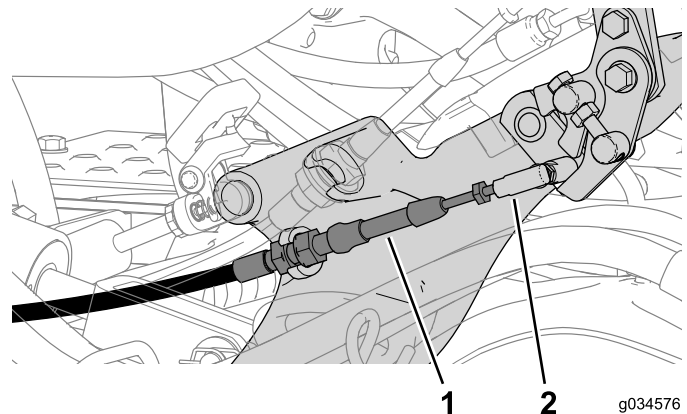

Figure 6
4. Disconnect the neutral-lock cable from the ball-joint connector on the traction-rod assembly (Figure 6).